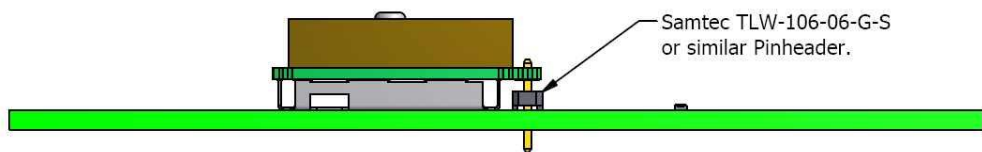

Figure 4. Side view of the pin header assembly for the UP500 module.
- Solder the pin header to the module in such way that the pins are as short as possible on the antenna side of the UP500 module (see figure 4).